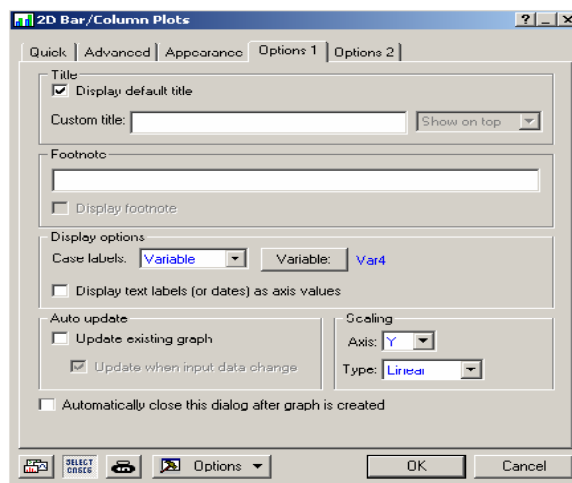

Figure 2.10 2d Bar/Column Plots
4. Click Options 1(you will get Figure 2.10)